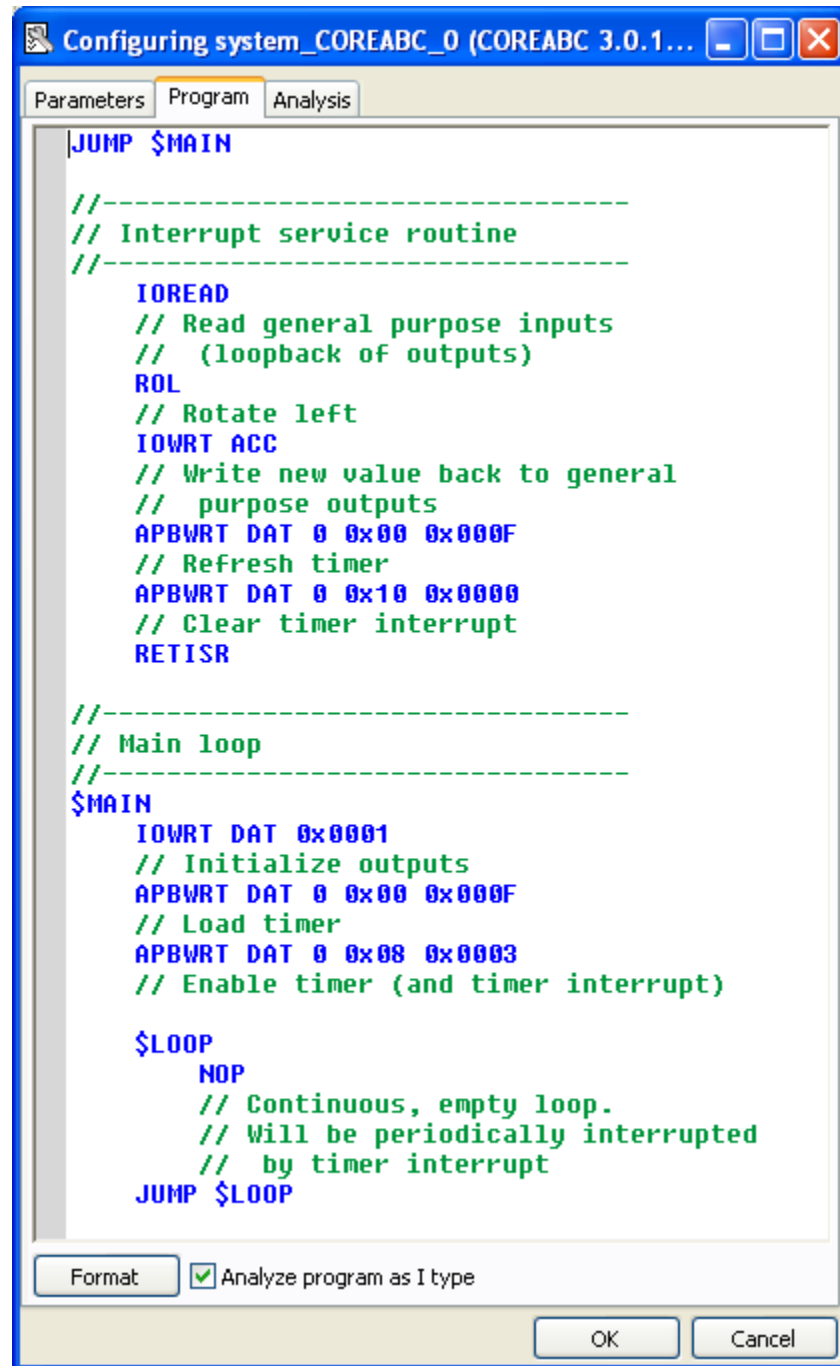

Figure 9-5 • Program Tab
2. On the Program tab of the configuration window, enter the program shown in the screen shot in Figure 9-5 on page 59 and then click the **OK** button to dismiss the CoreABC configuration window.